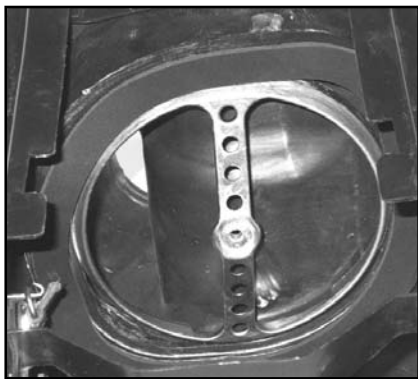

Fig. 1
3. Apply the provided gasket into the base of the air box. (Fig. 1)